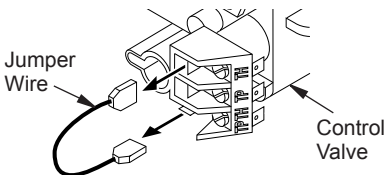

Figure 19 - Disconnecting Jumper Wire from Control Valve
7. Disconnect jumper wire from control valve at TPTH and TH locations (see Figure 19).